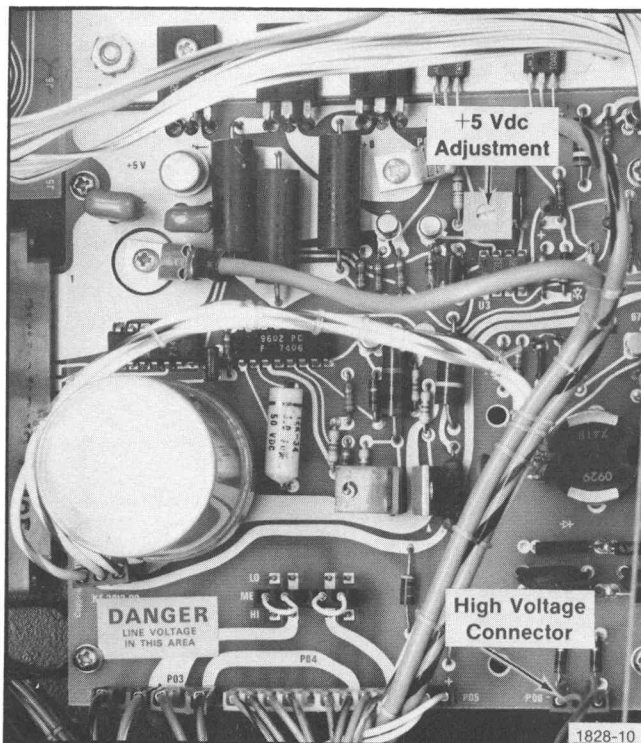

Fig. 3-4. High Voltage Connector and +5 Vdc Adjustment.
3. Lift the platen at the left bottom edge, and slide the platen to the left until it clears the pen carriage, then lift slightly to expose the two wires which connect the platen to the High Voltage Connector on the Power Regulator board. Disconnect the two-pin harmonica connector from the connector pins, then remove the platen (Fig. 3-4).
There is only one electrical adjustment within the Plotter. It is located on the Power Regulator Board and determines the voltage of the +5 V dc power supply (Fig. 3-4). When measuring the +5 V dc supply, make measurements between a circuit ground bus (not the chassis) and the +5 V dc bus. The voltage should be +5.1 V dc  $\pm 2\%$  (4.998-5.202).